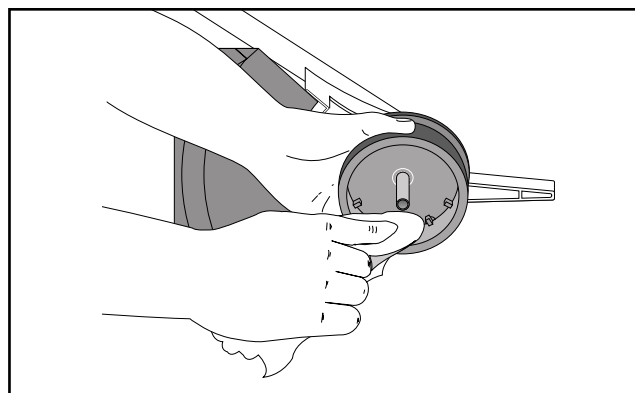

Fig. 28
3. Use a clean cloth to clean the inner surface of the outer spool (Fig. 28).